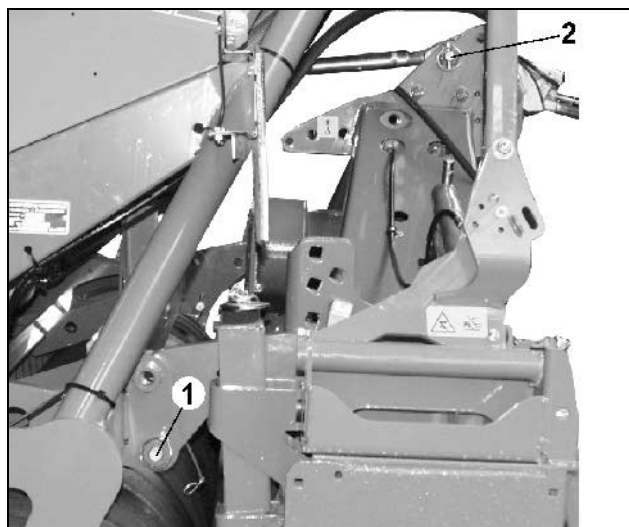

Fig. 101
- Pull out the pins for the lower link fixing (Fig. 101) on the left and right hand side. Beforehand slacken the clip pin.
- Pull out pins on the upper link (Fig. 101/2), beforehand slacken the clip pin.